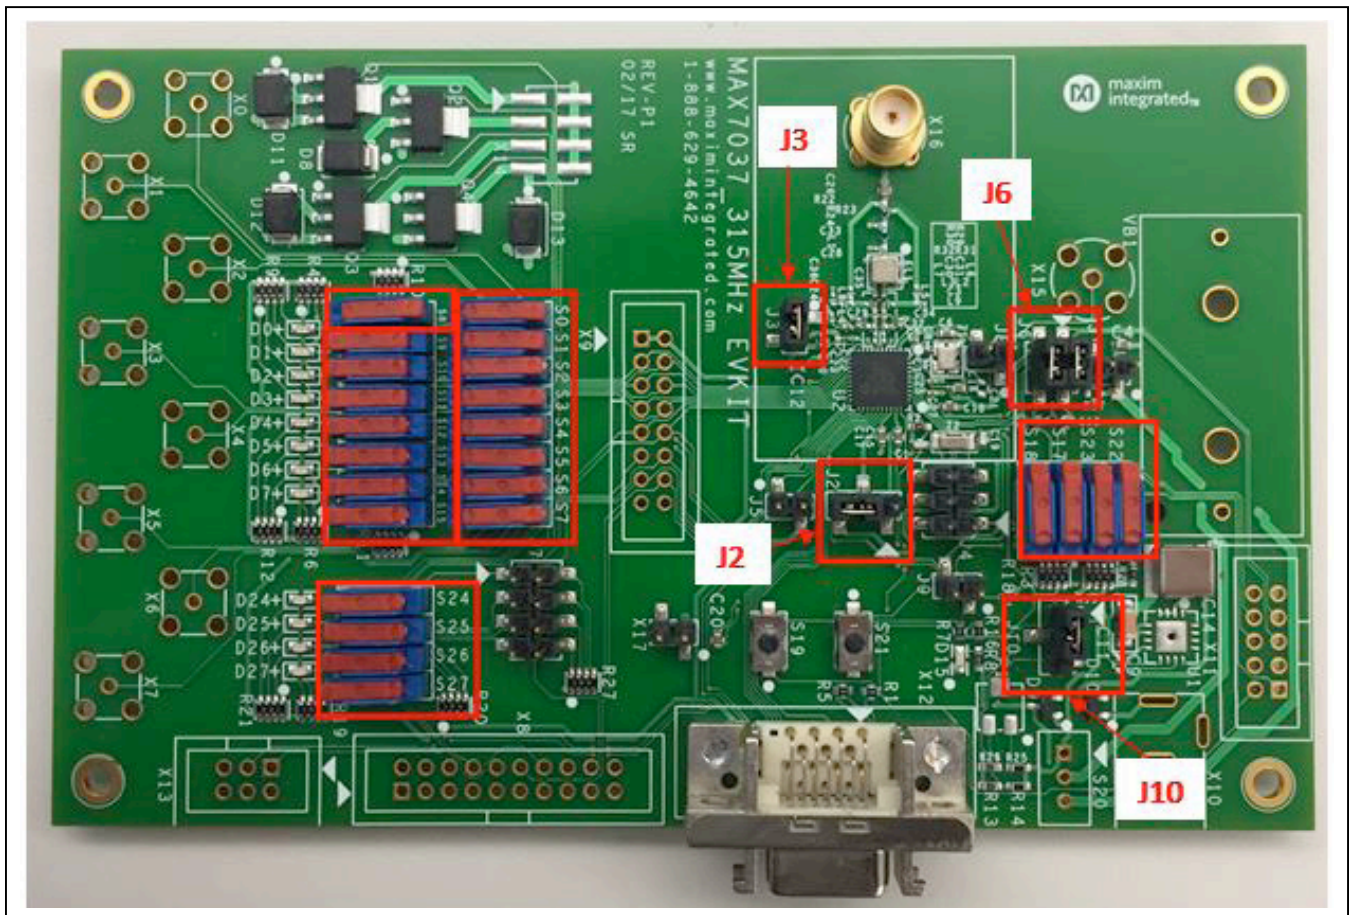

Figure 1. MAX7037 EV Kit Photo Jumpers Location
Shunt J2, J3, J6, J10. J2 has three pins. The two that are shunted are the left-most two pins. J10 also has three pins. The two that are shunted are the top-most two pins. Any jumpers or headers not mentioned here should be left unshunted. Figure 1 shows the location of these jumpers.
- The four-switch DIP labeled S22, S23, S17, and S18 should all be slid to the upper position, as displayed in Figure 1.
- The four-switch DIP labelled S24–S27 should all be slid to the left position, as shown in Figure 1.
- The 8-switch DIP labelled S0–S7 should all be slid to the right position, as shown in Figure 1.
- The 8-switch DIP labelled S8–S15 should have all but the top-most switch slid to the left, as shown in Figure 1. The top switch of this particular DIP (i.e., the S8 switch) should be slid to the right.